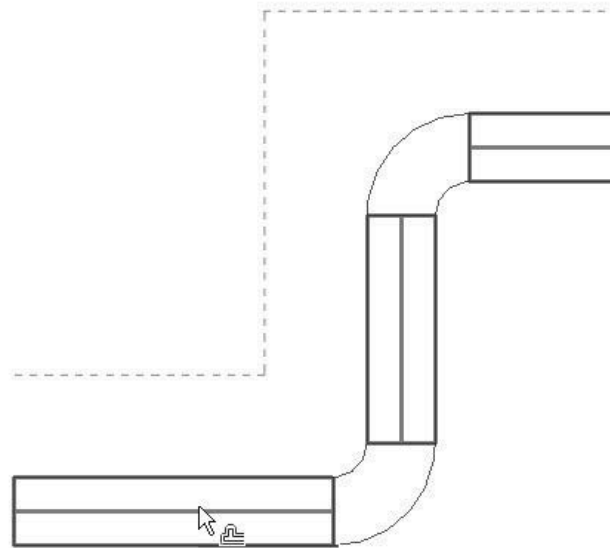

Figure 2–80
- With the **Numerical** option, you can select multiple connected linear elements for offsetting. Hover the cursor over an element and press <Tab> until the other related elements are highlighted, as shown in Figure 2–80. Select the element to offset all of the elements at the same time.